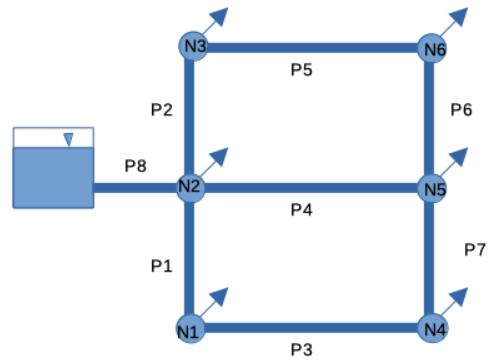

Figure 6: Gravity flow pipe network
9. Figure 6 is a gravity-flow pipe network with water supplied from a fixed-grade reservoir (pool elevation 100 meters) connected to node N2. All pipes are ductile iron.